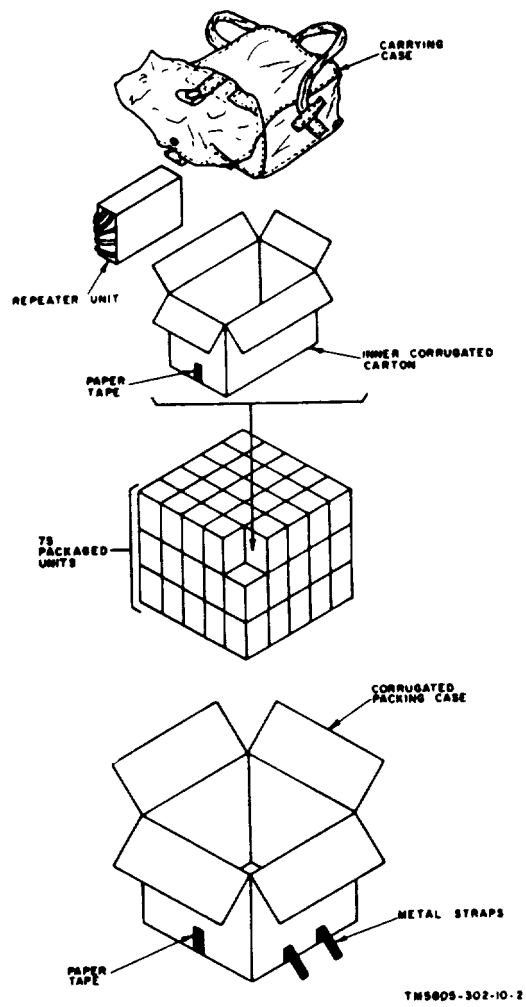

Figure 2. Repeater, Telephone TA-287/G, packaging diagram .
a. *Packaging Data.* Each telephone repeater is packed in an individual corrugated carton, and 75 packaged telephone repeaters are packed in a corrugated packing case. An exploded view of the packaged components is shown in figure 2